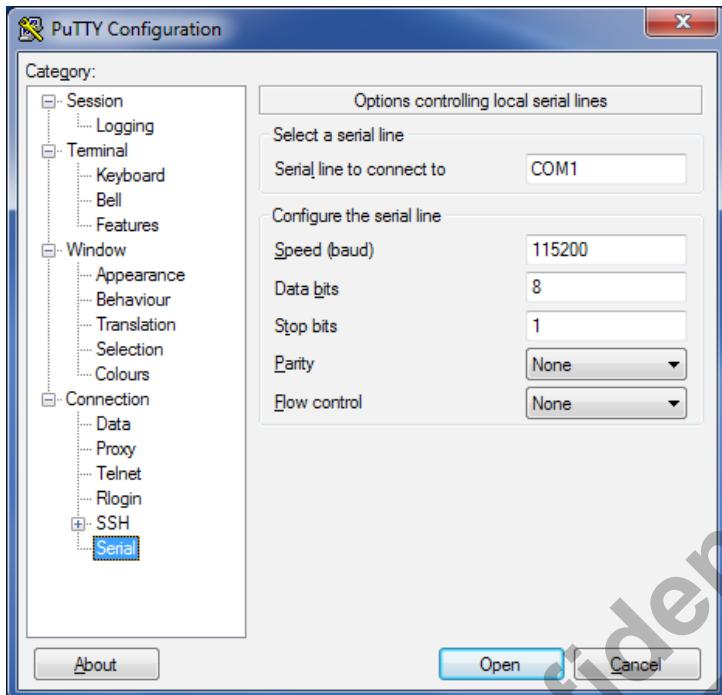
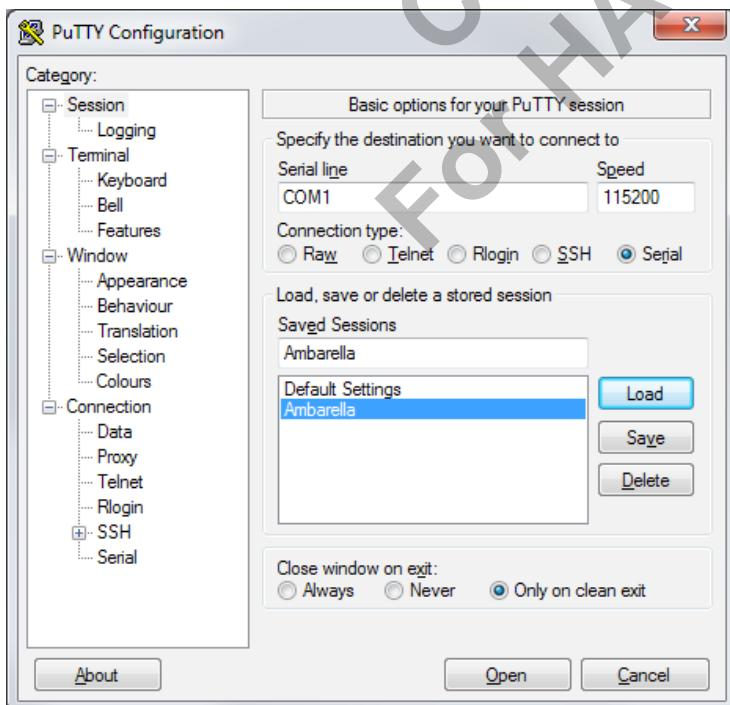

Figure 3-9. **PuTTY Configuration - Serial Control.**
Figure 3-10. **PuTTY Configuration - Basic.**
2. To enable a serial connection, configure **PuTTY** as follows (Figure 3-9 and Figure 3-10):